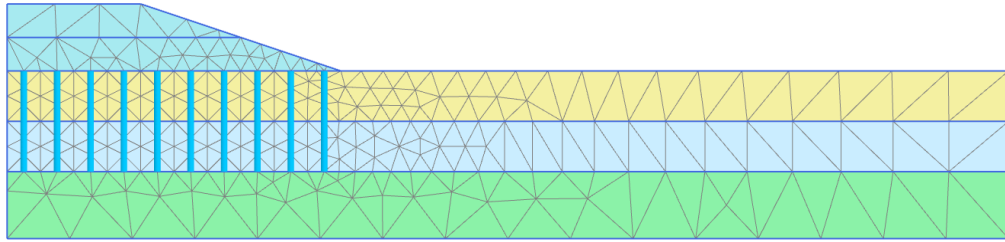

Figure 9-6: The generated mesh
- 3 Click the **View mesh** button  to view the mesh as shown in Figure 9-6 \(p. 151\).